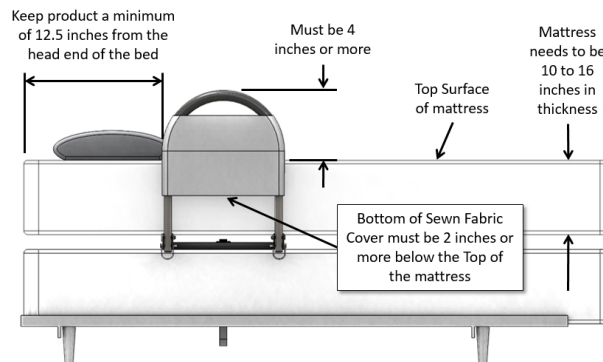

Figure 5
7. **Entrapment Warning:** Install the Sewn Fabric Cover over the Handle as shown in Figure 5. Do NOT use the product without the Sewn Fabric Cover installed. Do NOT alter the Sewn Fabric Cover in any way. The Sewn Fabric Cover helps prevent getting entrapped within the bed rail (see the **Entrapment Prevention Guidelines** sheet provide with these instructions).
NOTE: Keep the product 12.5 inches from the head end of the bed to help prevent entrapment issues (see the **Entrapment Prevention Guidelines** sheet provide with these instructions). Also, keeping the Handle height 4 inches or more helps prevent user(s) from climbing over the product as shown in Figure 5.